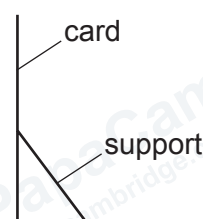

Figure 3.3
- (iv) Screen. A white sheet of stiff card, approximately 15 cm × 15 cm and fixed to a wooden support, is suitable. See Figure 3.3.